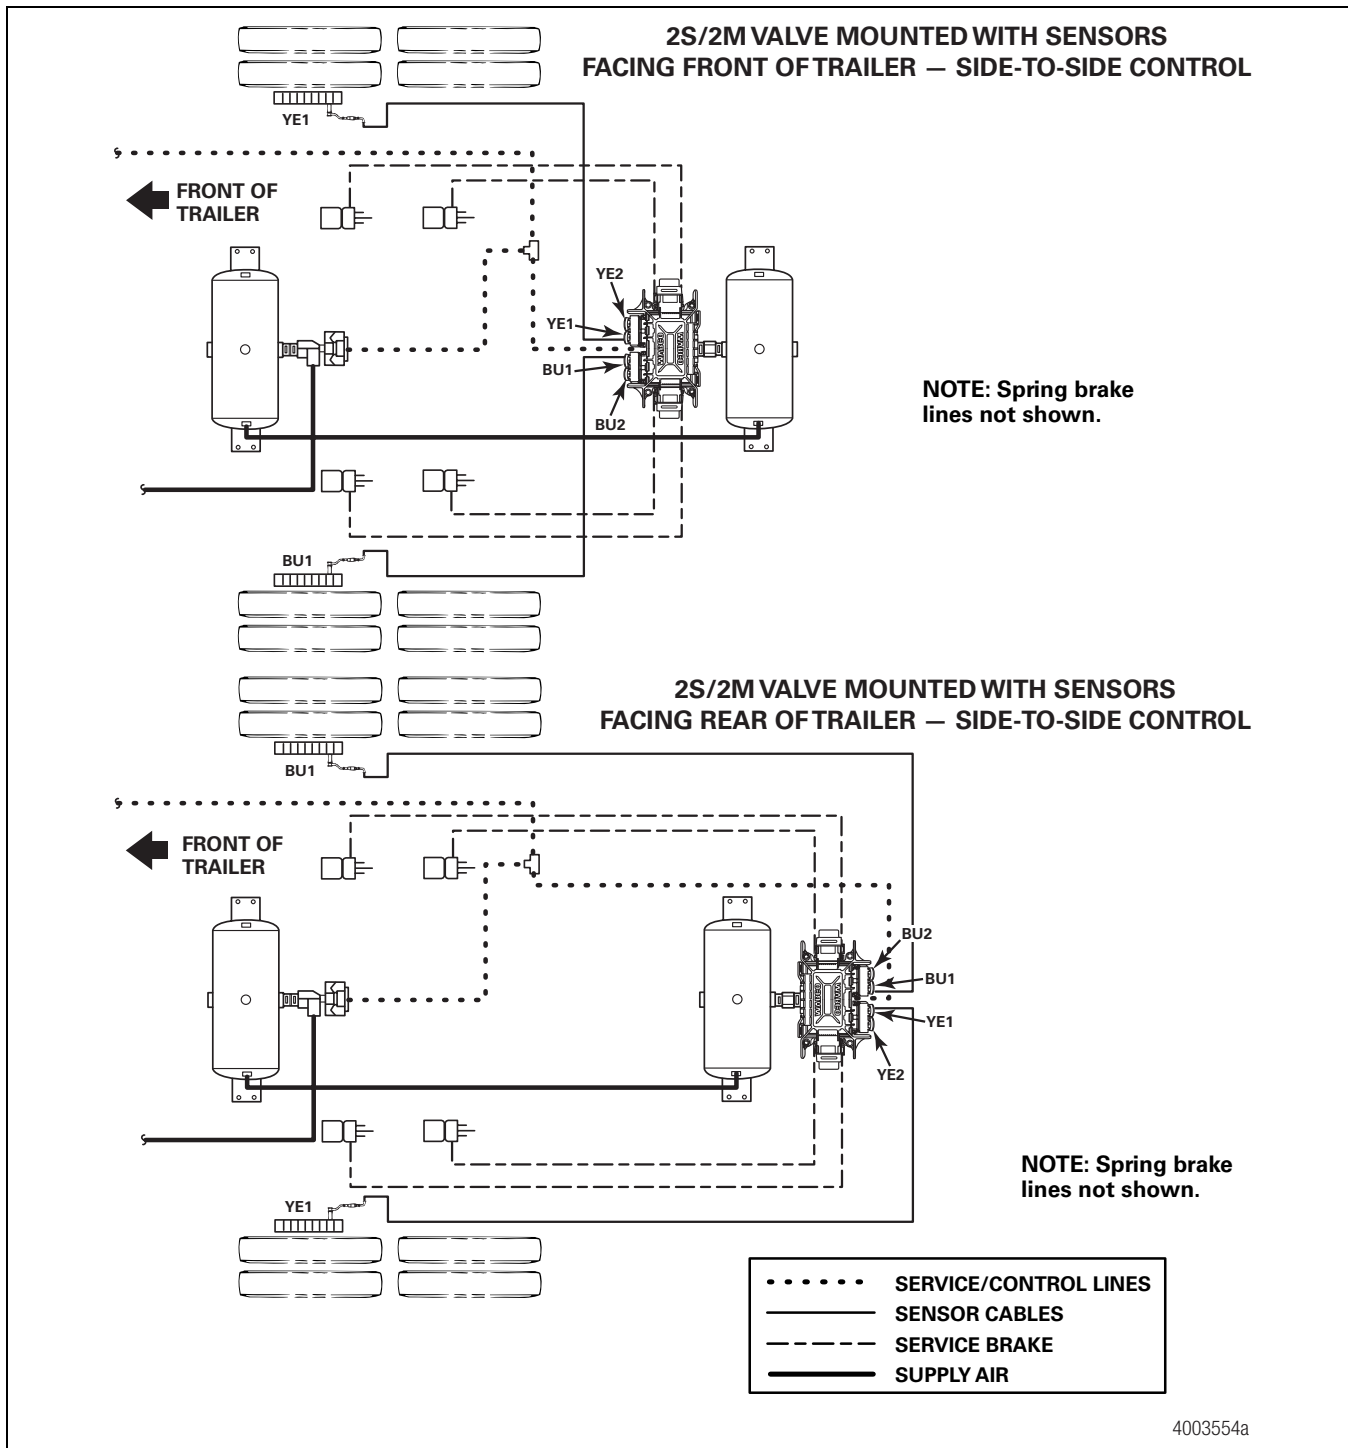
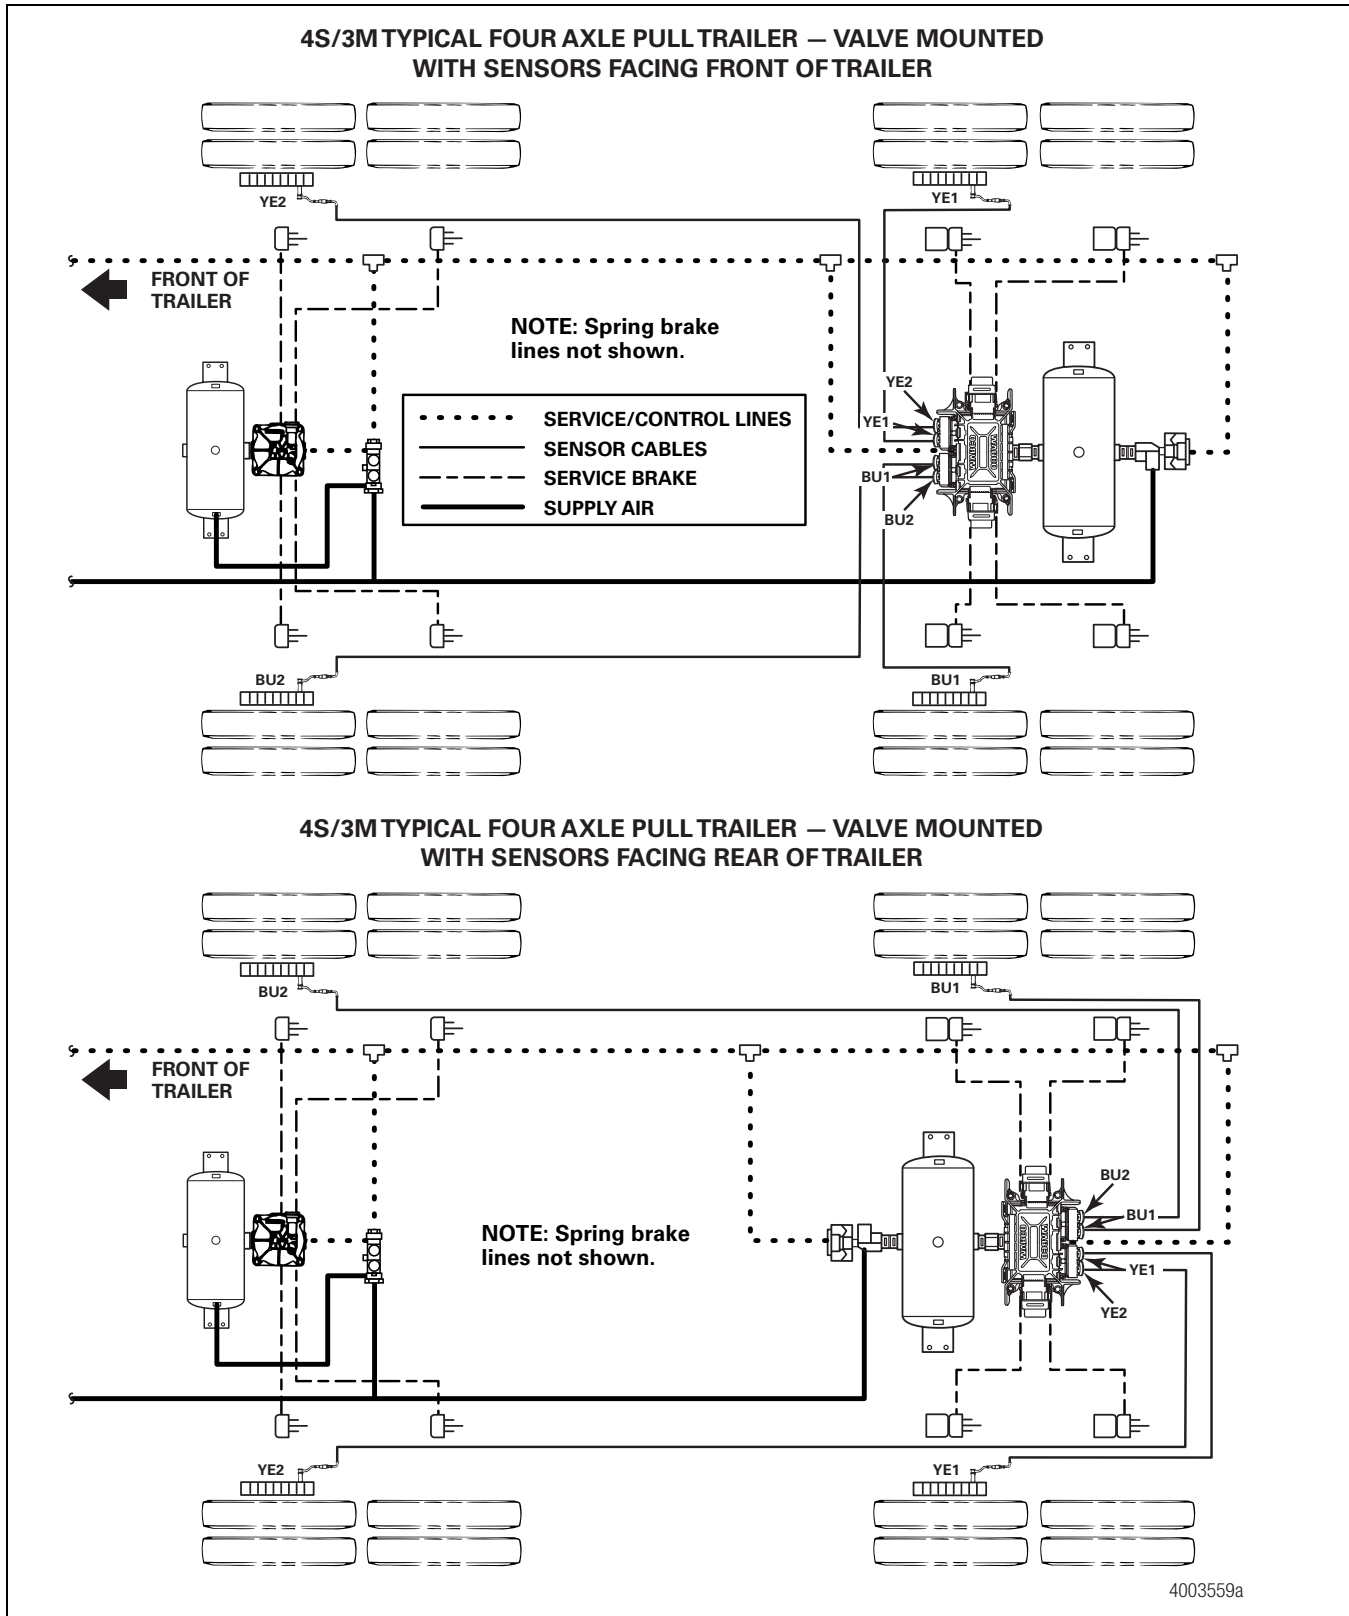

Figure 13
Figure 19
- The external relay valve designated RED (RD) is an axle control valve. It controls brake chambers on one or two axles. It is important that delivery lines from Port 2 are plumbed as shown. Refer to Figure 13 through Figure 19.
Refer to Figure 13 through Figure 19 for typical Easy-Stop™ trailer ABS installations.